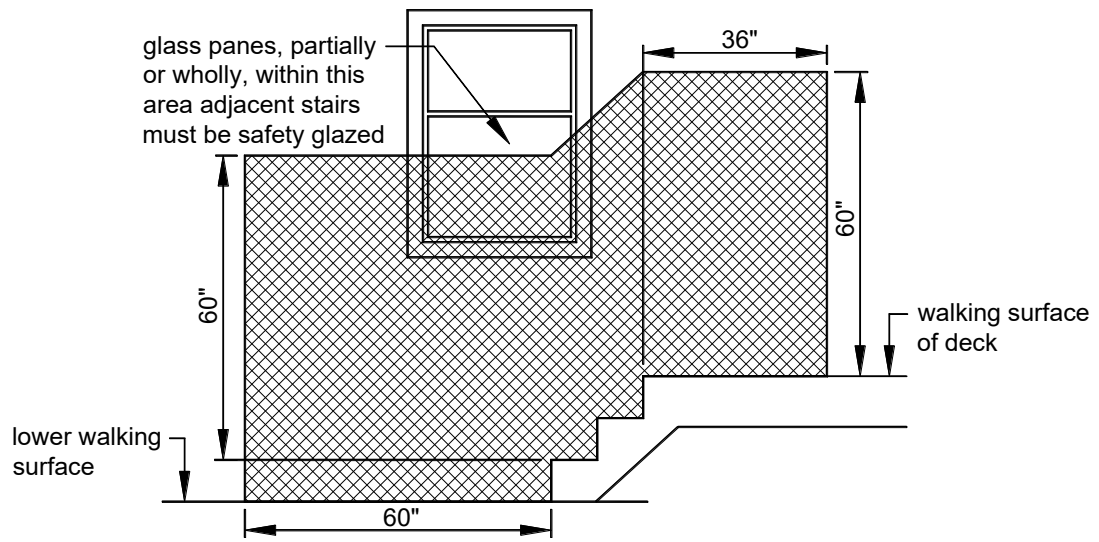

FIGURE 40: SAFETY GLAZING AREA AT STAIRS
**Windows adjacent stairway.** Individual panes, partially or wholly located in the hatched area shown in FIGURE 40, must be safety-glazed. In the absence of safety glazing in a window adjacent a stairway, a stair guard must be constructed to separate the window from the stairway. In the absence of safety glazing in a window adjacent the 36-inch horizontal areas at the top or bottom of the stairs, a guard or horizontal rail must be installed at a height between 34 and 38 inches. The rail must meet the requirements of a stair handrail.